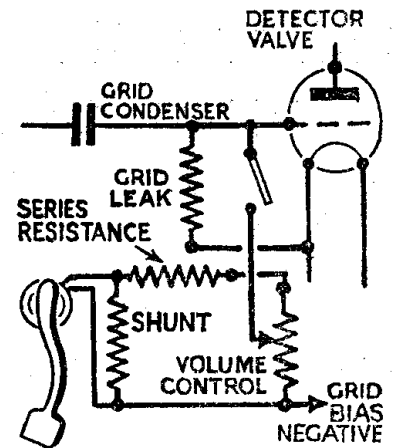

Fig. 4.
Where the amplifier is fitted with a "Gram." volume control, a *shunt* resistance connected as shown in Figs. 4, 5 and 6 may be found necessary. The resistance value will depend on the type of instrument.
To prevent overloading of the amplifier ("blasting") a non-inductive resistance between 2,000 and 10,000 ohms may be required. Connecting the resistance *in series* as shown in Figs. 4, 5 and 6 will reduce the voltage applied to grid of valve.
The adaptation of the pick-up to a radio instrument must be carried out according to its circuit: three normal cases are shown diagrammatically in Figs. 4, 5 and 6.
**BATTERY-OPERATED RECEIVERS (Fig. 4).**
Unless a switch is fitted as shown in Fig. 4 the pick-up lead connected to the grid terminal of the instrument must be removed before satisfactory 'radio' can be obtained.